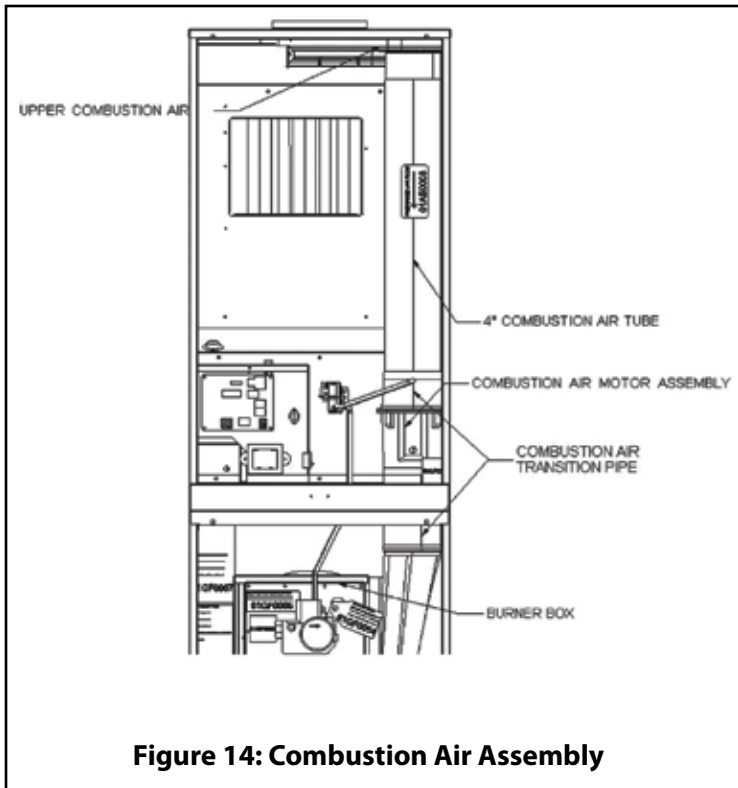

Figure 14: Combustion Air Assembly
11. Remove the 4 screws that secure the combustion air baffles to the burner box / vestibule panel (See Figure 14).
14. Grasp the burner box and twist slightly while pulling down to remove the 4" pipe from the combustion air housing (See Figure 14).
16. Remove the 2 screws in the top of the combustion air housing and remove the assembly from the upper 4" pipe (See Figure 14).
22. Connect the 1/4" tube to the nipple located on the top right side of the burner box (See Figure 14).